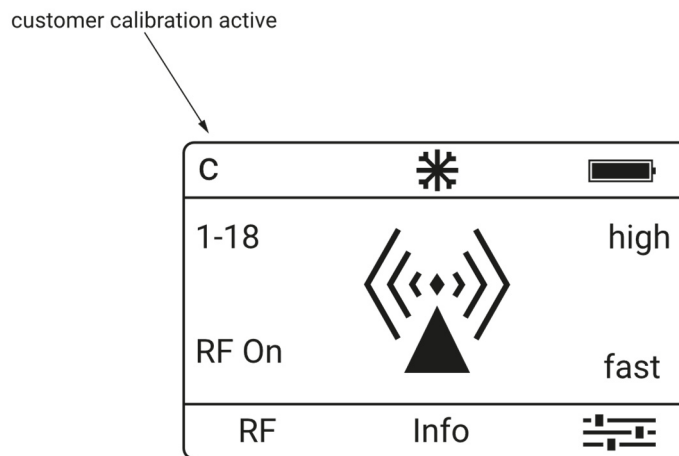

Figure 14: Active customer calibration
- Active customer calibration will be indicated on the display “C”, see **Figure 14**